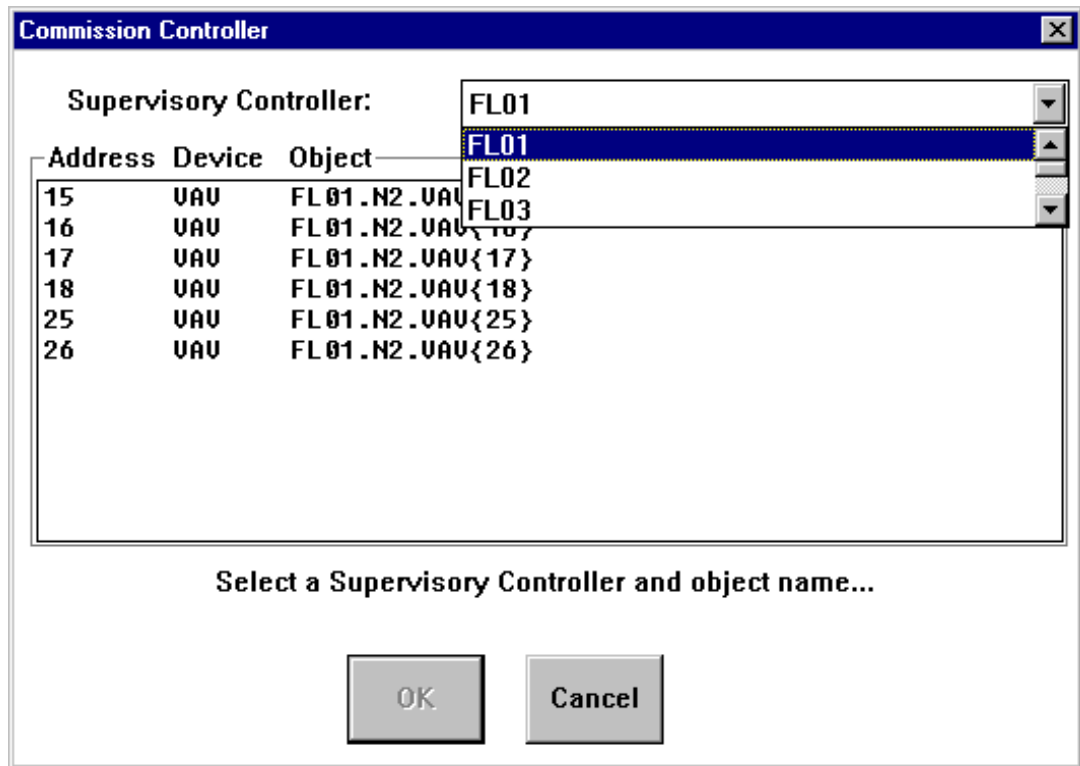

Figure 17-10: Commission Current Controller Dialog Box
1. On the Commission menu, click Current Configuration. HVAC PRO software builds a list of all Supervisory Controllers on the active network. The Commission Controller dialog box appears (Figure 17-10).